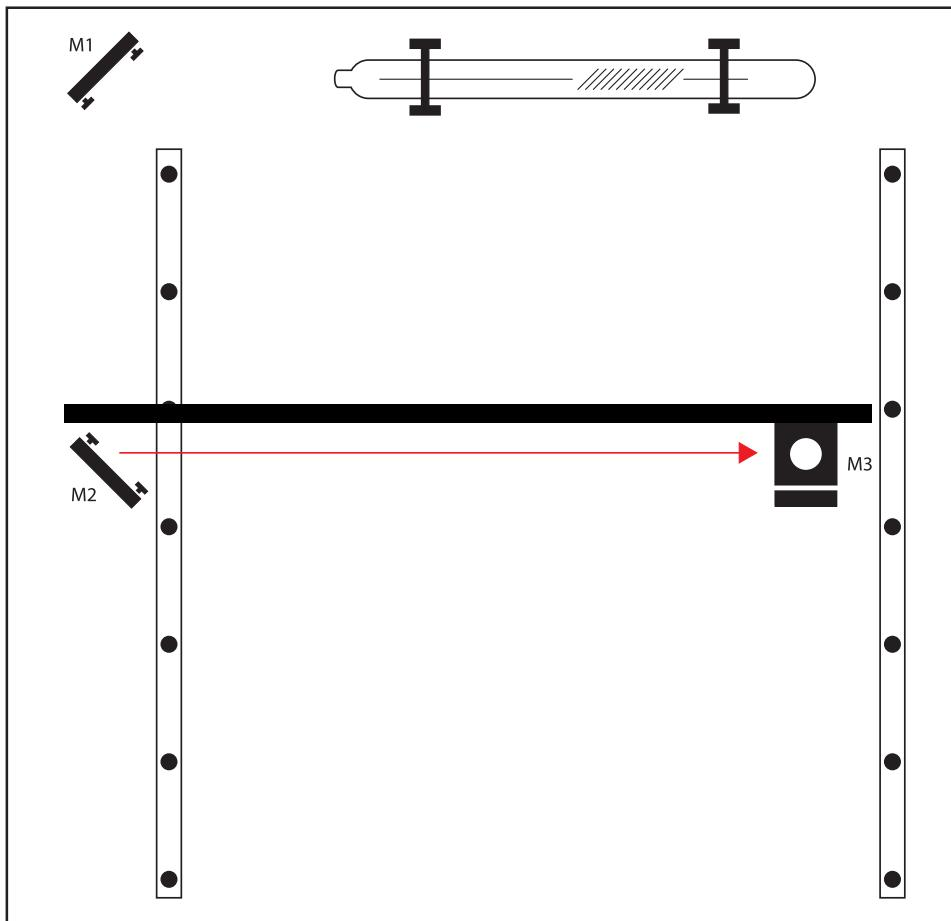

Figure 4.10
9. Re-Position X-Gantry back to “Far”: Jog or manually position the laser head to the right position where you did the first test fire (see Figure 4.10).